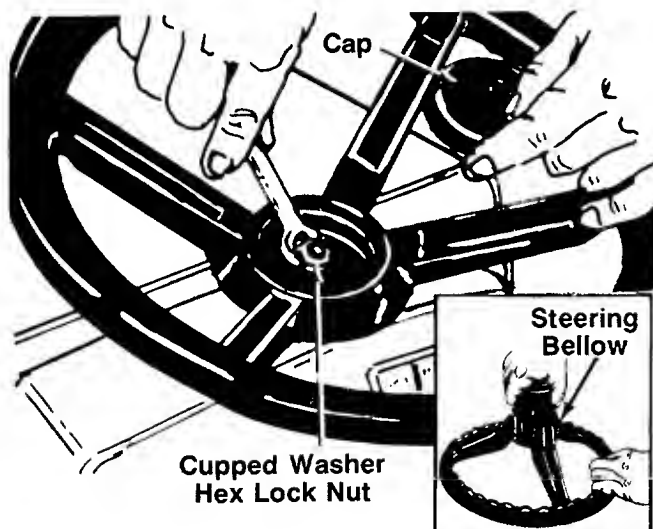

FIGURE 6.
2. **Models 723, 728, 733, 738, 743, 748, 753 and 758 only:** Attach one end of the plastic steering bellow to the steering wheel as shown in figure 6, inset.
5. Place the washer with the cupped side down over the steering column. Secure with 5/16" hex lock nut. See figure 6.